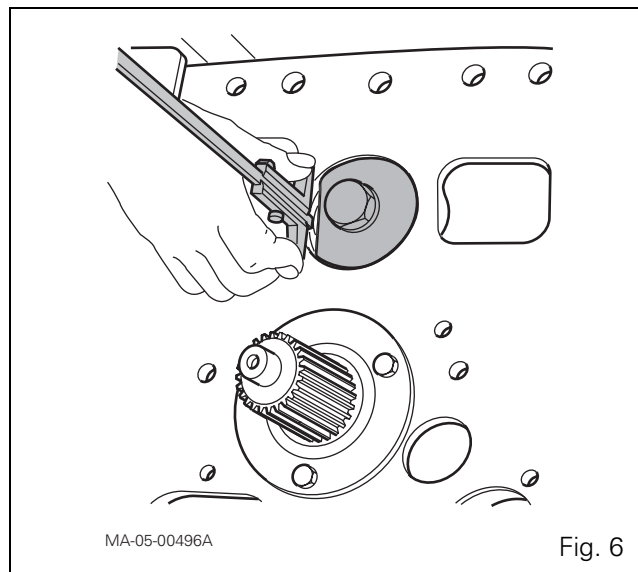
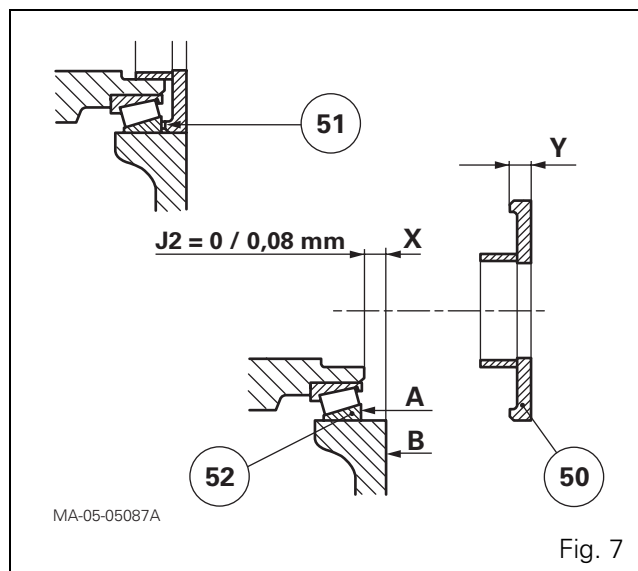

Fig. 6
Fig. 7
35. Carry out the shimming on the shaft to obtain a clearance of **J2 = 0 to 0.08 mm** (Fig. 7)
39. Using a depth gauge (Fig. 6), measure dimension X between face A of the bearing cup (52) and face B of the housing (Fig. 7).
40. Measure the thickness Y of the oil deflector (50).
44. Fit the shims (51) selected during step 42.